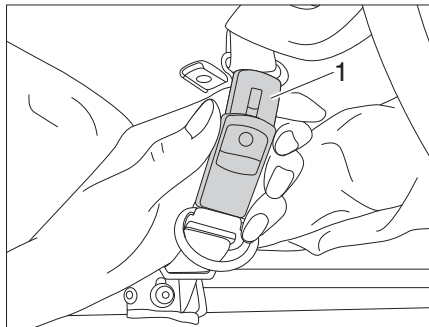

Fig. 48 Open the securing belt
- Open the securing belts (Fig. 48,1).
- Close the securing belts (Fig. 48,1).